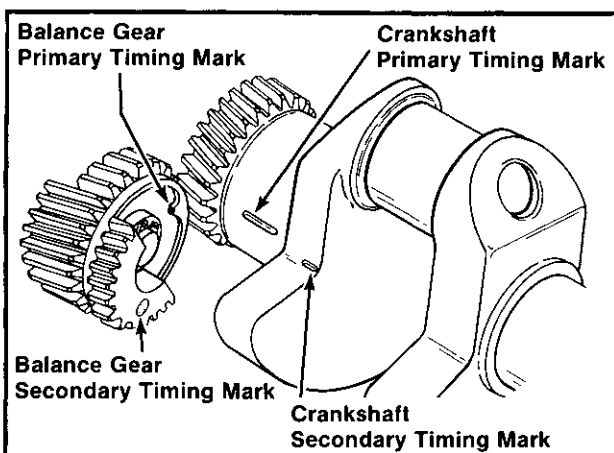

Figure 12B-16. Timing Marks On Balance Gear And Crankshaft.
2. Align the primary timing mark on the crankshaft with the timing mark on the camshaft gear. Refer to Figure 12B-14. Press the crankshaft all the way into the rear bearing. Make sure the camshaft and crankshaft gears mesh and that the timing marks align while pressing.
3. Position the crankshaft so it is about 15° past BDC. Install 3/8" spacer, and one .010" shim spacer. Align the secondary timing mark on the lower balance gear with the secondary timing mark on the crankshaft. Install the lower balance gear on the stub shaft. If properly timed, the primary timing mark on the crankshaft will now be aligned with the secondary timing mark on the lower balance gear. Refer to Figures 12B-9 and 12B-16.
4. Install one (1) .020" shim spacer and retaining ring (rounded edge towards gear). Check end play of lower balance gear as instructed under "INSTALL BALANCE GEARS." Refer to Figures 12B-9 and 12B-10.